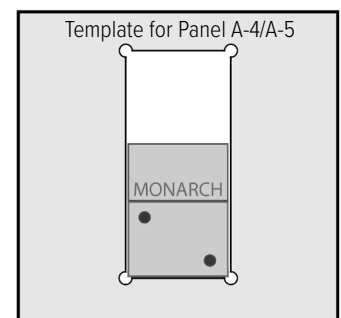

Figure 3.4.3
3.4.3 Fasten Z-clips to the cab wall at each open slot in the template as shown in **Figure 3.4.3**.